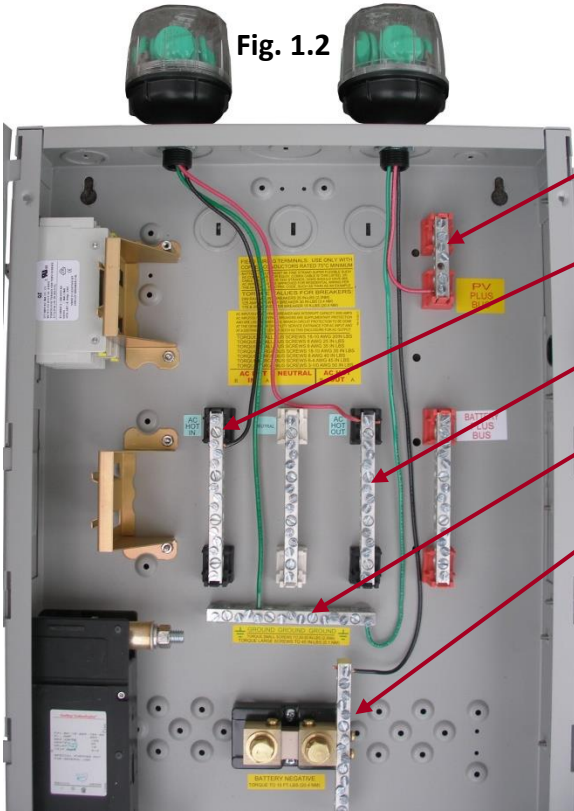

Fig. 1.2
4. Connect phase conductors. The phase wires are black and red in color. The orientation is not critical to the operation. (AC) With the POWER OFF, connect one wire to AC HOT IN (line) and other wire to AC HOT OUT (load) as shown in **fig. 1.2** (DC) connect the red wire to PV + and the black wire to PV - or battery minus. PV combiners get installed as shown in **figure 1.1**